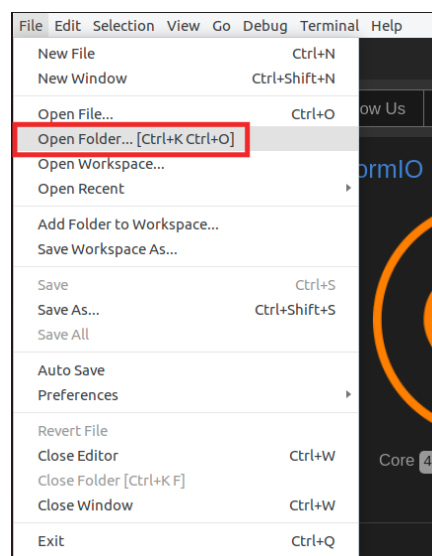

Figure 7. Open the *AL_Operations.S* example
2. On the top bar, click on *File*→*Open Folder* (Figure 7), and browse into directory `[RVfpgaSoCPath]/RVfpgaSoC/Labs/LabResources/Lab2/examples/`